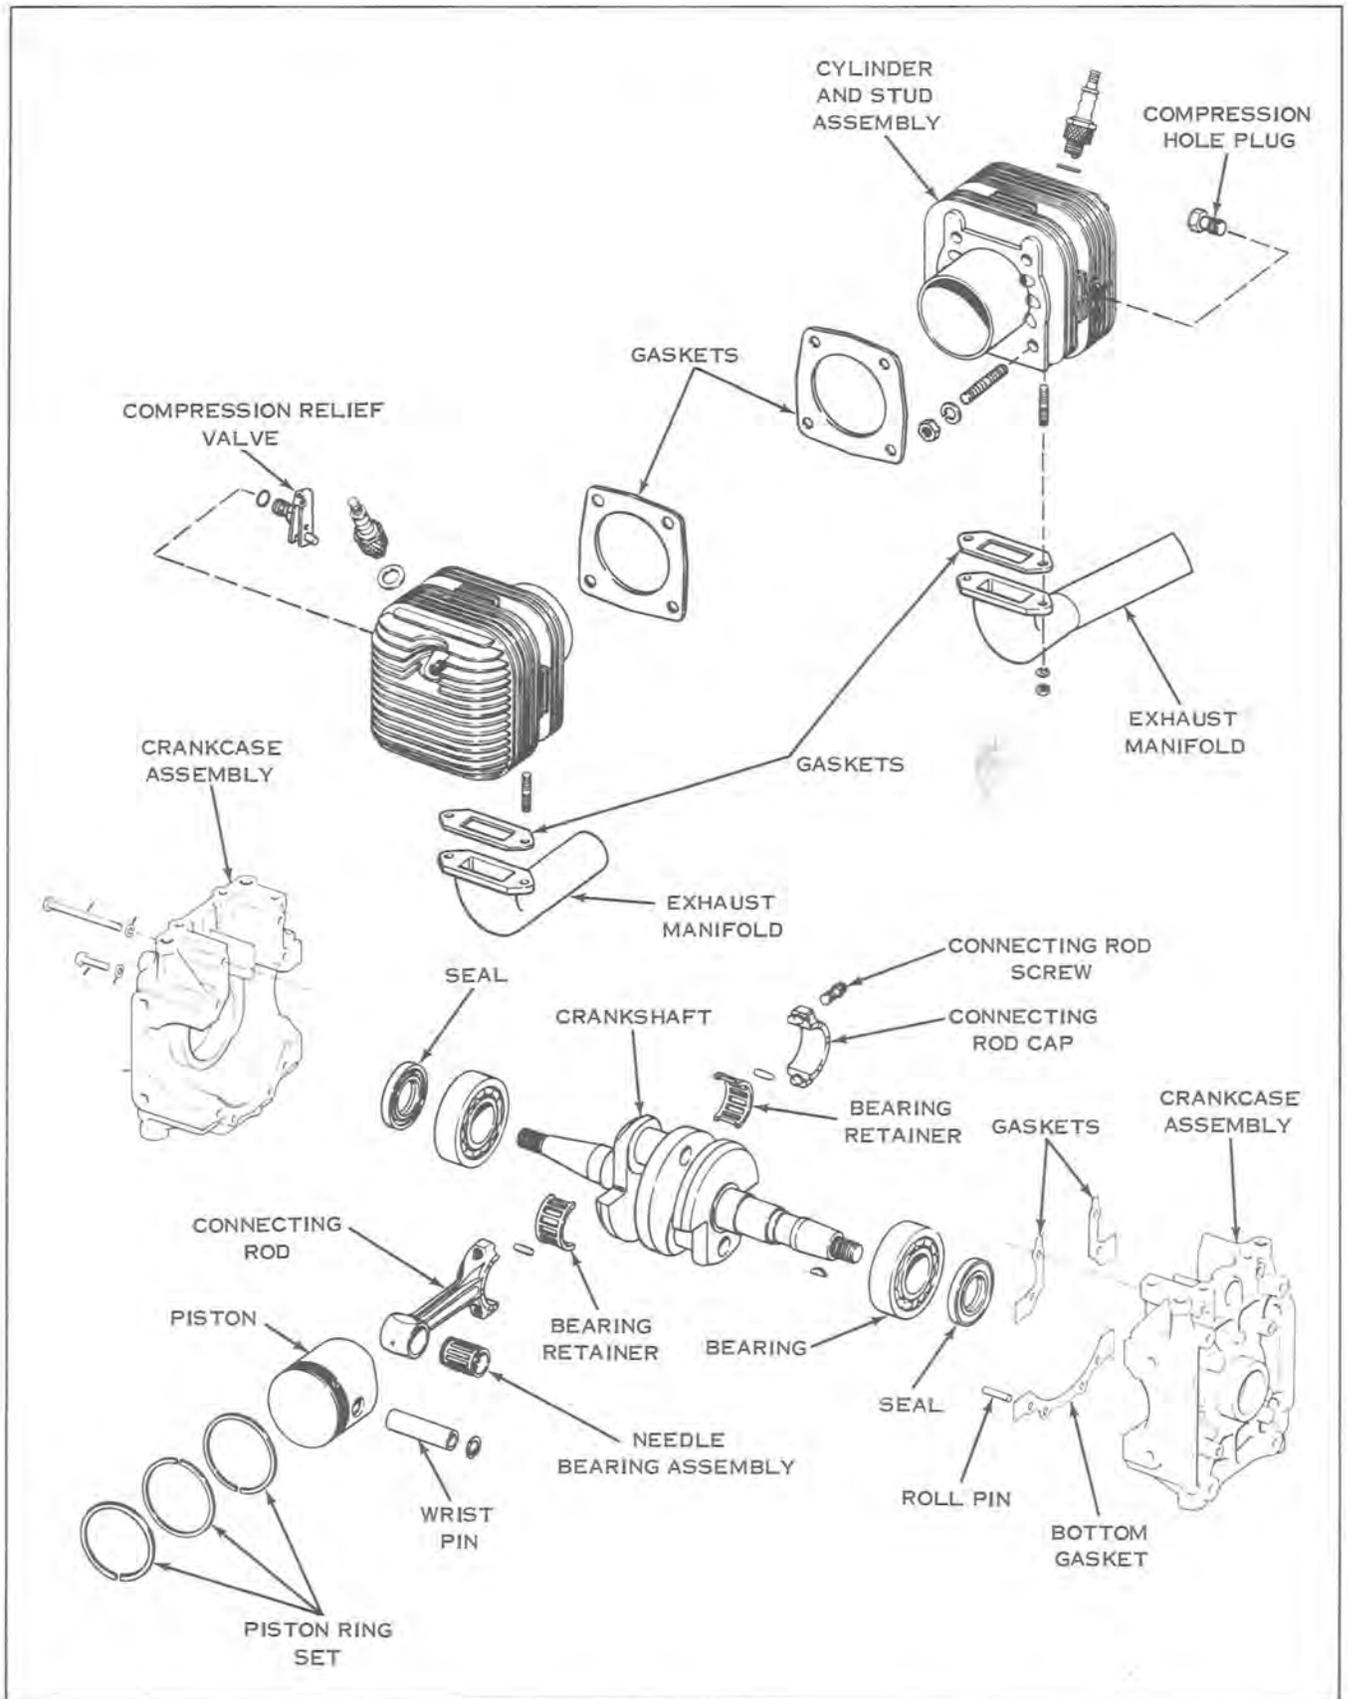

Figure 9-10
- b. Assemble exhaust manifolds to cylinder barrels if they were removed. The gasket surfaces on cylinders and manifolds must be clean and smooth. Place new exhaust manifold gaskets over cylinder studs and assemble exhaust manifolds. See Figure 9-10.